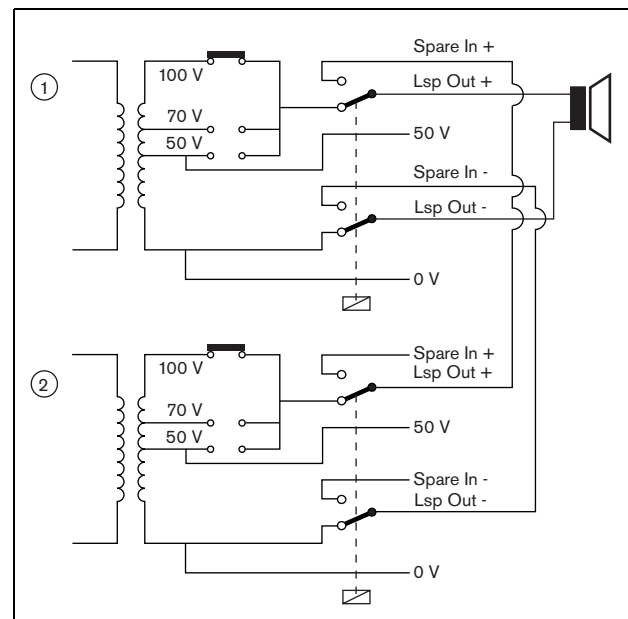
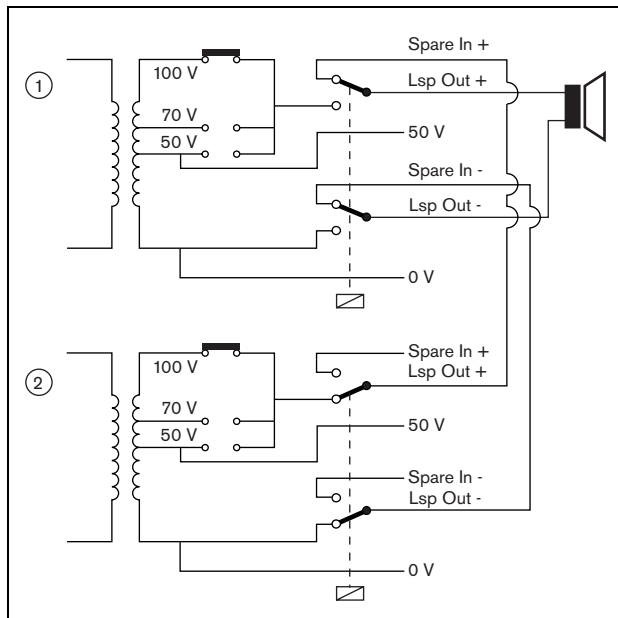

figure 6.7: Power amplifier, before spare switching
figure 6.8: Power amplifier, after spare switching
The actual spare switch is carried out by a relay. See figure 6.7 for the situation before spare switching and figure 6.8 for the situation after spare switching. As long as the main power amplifier (1) functions correctly, this relay is energised (see figure 6.7) and the audio is routed to the loudspeaker line (*Lsp Out+* and *Lsp Out-* terminals). The spare amplifier (2) does not route any audio, since it has no connection to any loudspeaker line.
At the moment the main amplifier (1) goes down, the relay is de-energised and the switches fall into their default positions: *Spare In -* and *Spare In +* (see figure 6.8). This means that the audio output of the spare amplifier (2) is routed to the loudspeaker line through the main amplifier (1).